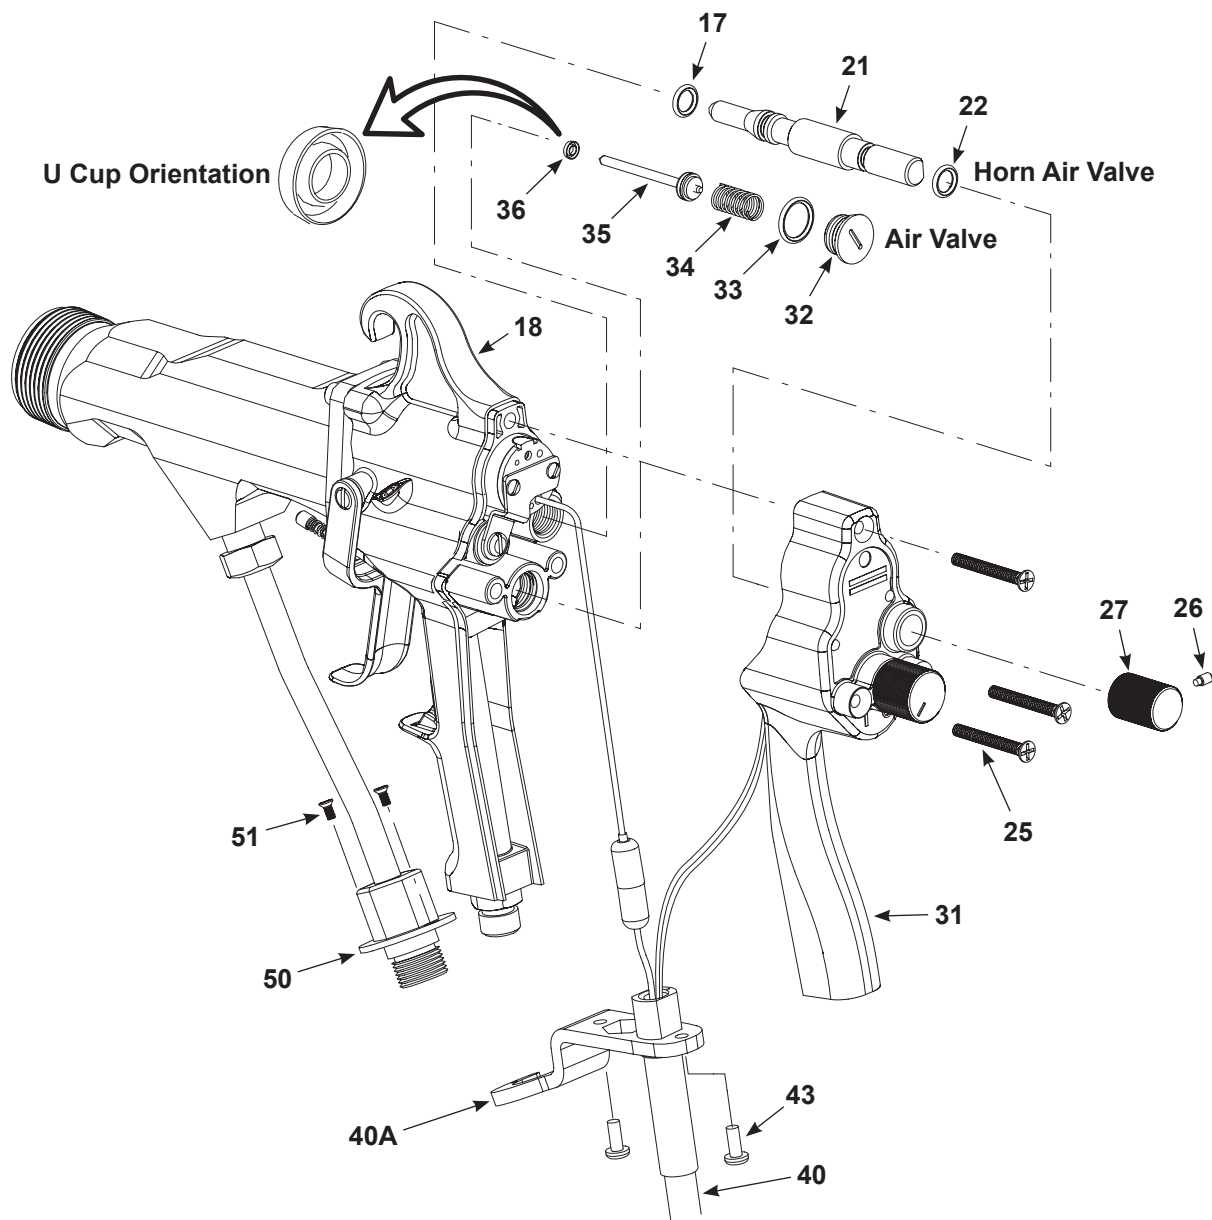

Figure 7-9 Air Valve Repair
2. See Figure 7-9. Unscrew the air valve plug (32). Inspect the O-ring (33) and replace it if it is damaged.
3. Remove the air valve spring (34) and air valve stem (35) from the handle. Do not lose the spring. If the air valve stem does not come out with the spring, push it out from the trigger side of the handle. Do not use any tools to force the stem; you may damage the U-cup seal (36) or stem bore.
2. See Figure 7-9. Install the horn air adjust knob (27) on the horn air adjust valve (21) and tighten the set screw (26). Unscrew the valve from the handle.